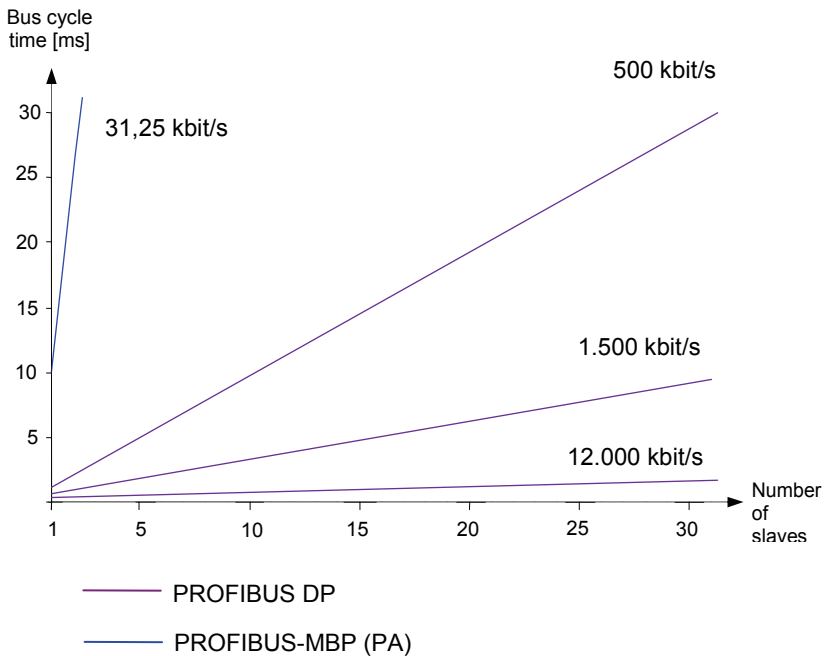

Figure 2-12 PROFIBUS bus cycle times
Figure 2-12 provides a graphical representation of the formula shown in Table 2-7 for the fixed transmission rate of 31.25 kbits/s for PROFIBUS-MBP (PA). The bus cycle times for PROFIBUS DP are shown in the same graphic as a reference. Again, it is assumed that each slave uses 5 bytes of input and output data.